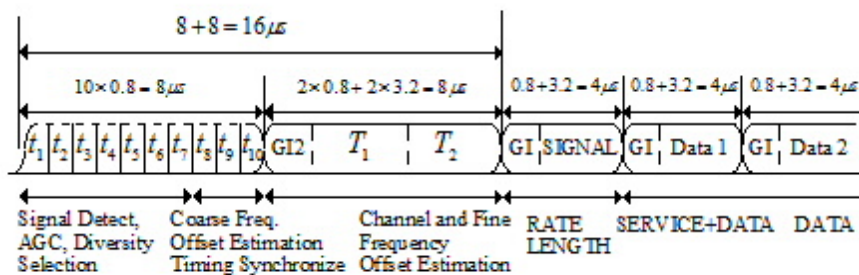

Fig.1 OFDM training structure
2. The PLCP preamble field is used for synchronization. It consists of 10 short symbols and two long symbols shown in Fig.1.
3. Fig.1 shows the OFDM training structure (PLCP preamble), where  $f_1$  and  $f_{ID}$  to denote short training symbols and  $T_1$  and  $T_2$  denote long training symbols. The PLCP preamble is followed by the SIGNAL field and DATA field. The total training length is  $16\mu s$ . The dashed boundaries in the figure denote repetitions due to the periodicity of the inverse Fourier